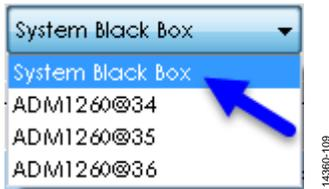
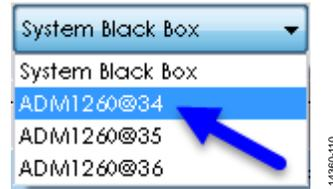

Figure 97. Viewing All Connected ADM1260 Devices
Figure 98. Selecting a Single ADM1260 Device to View
Click the **System Black Box** drop-down menu, shown in Figure 97 and Figure 98, showing options to view the black box from all the ADM1260 devices connected to the system or ADM1260 individual devices.
- **System Black Box.** This displays all of the ADM1260 devices connected on the ICB (see Figure 97).
- **ADM1260@(n).** This displays only a single ADM1260 at the listed address (see Figure 98).